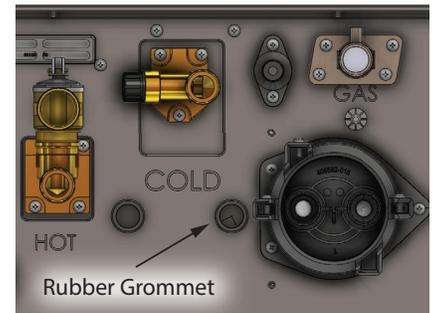

Figure 43 - Bottom of water heater - Grommet
- 6** Use Figure 43 to locate the rubber access grommet on the bottom of the water heater. Route the single harness end of the Cascade Linking Cable through the bottom and around to the circuit board.